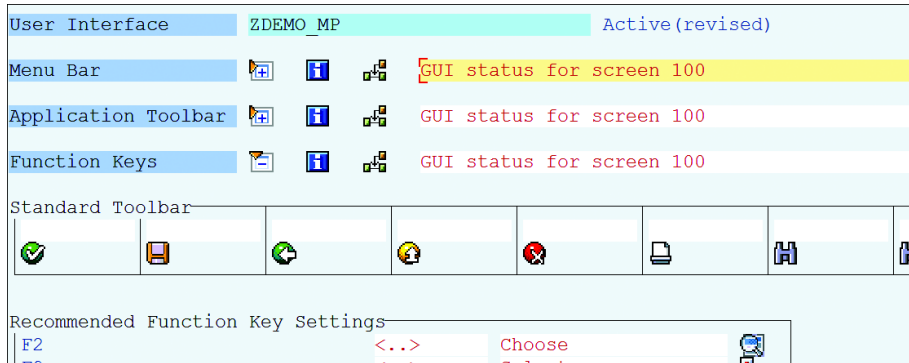

Figure 12.40 Maintaining Status
- On the MAINTAIN STATUS screen, you can define the status for the menu bar, application toolbar, standard toolbar, and function keys. Expand each status to maintain the function code, as shown in Figure 12.40. You can define new objects for the menu bar and application toolbar, but for the standard toolbar you can only enable or disable the standard buttons by maintaining a function code for each button.